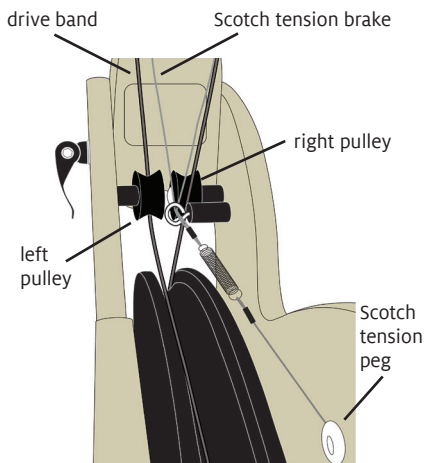

FIGURE 4: SET UP SCOTCH TENSION
9. Set up Scotch tension: Place the Scotch tension brake into the groove on the bobbin. Stretch the drive band over the whorl and set it into one of the whorl grooves (Figure 4).
- If the bulky flyer does not spin freely, remove it and reinstall without the drive band and Scotch tension brake. Check for the 1/16" gap between the bearing and shoulder of the flyer shaft (see Figure 4 on page 3). Spin the flyer by hand. If it spins freely, reinstall the drive band and Scotch tension brake; now you can start spinning.